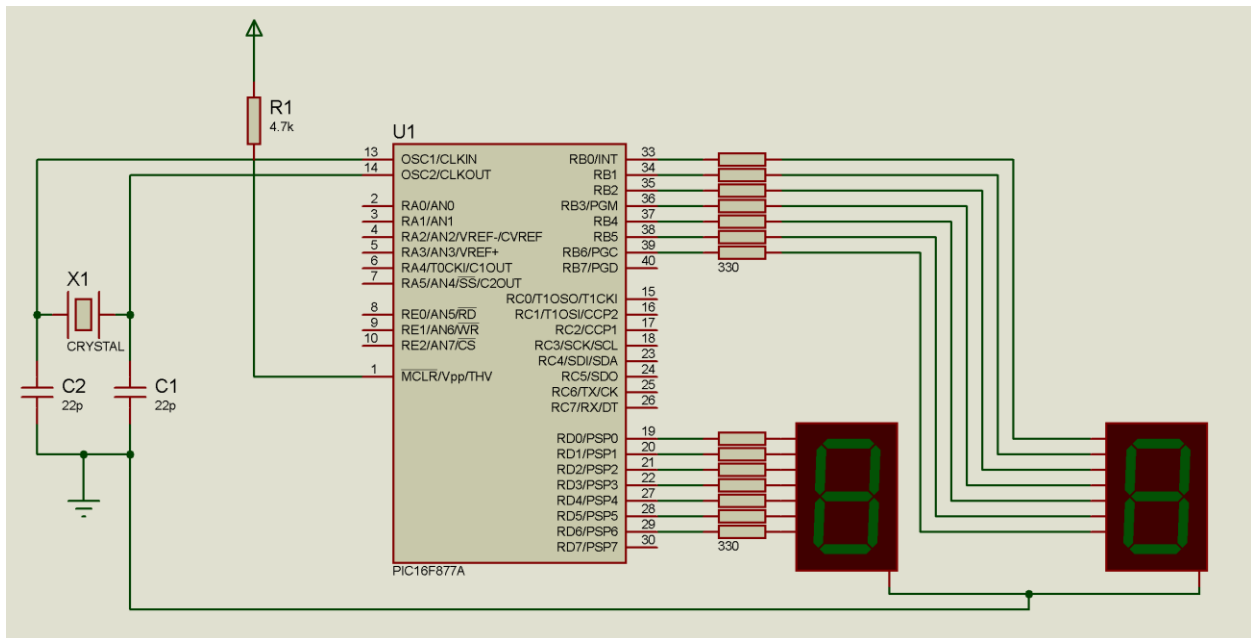

Figure 2: Experiment schematic diagram
7. Implement circuit provided in Figure 2 (set pullup resistors to 330Ohms).